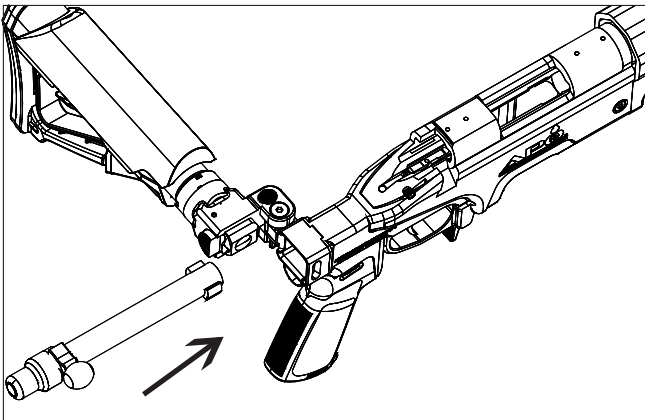

Figure 23 - Bolt Lugs Oriented into Receiver Raceway
5. Slide the bolt forward into the receiver. (Fig 23)